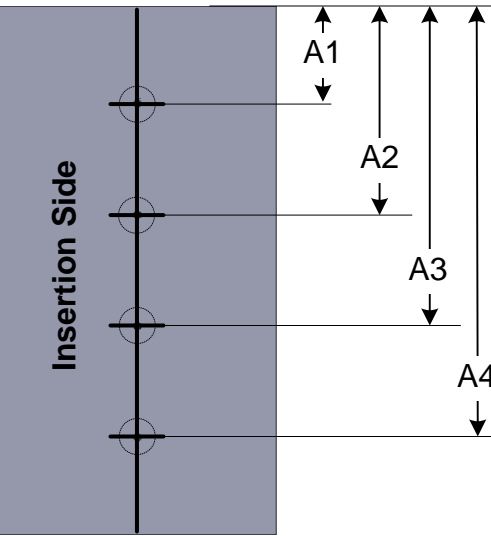

Figure 2
1. Identify the Insertion Side of the duct and draw a straight line perpendicular to the edges of the duct extending edge-to-edge per Figure 2.
2. Mark the center of each Insertion Hole location A1-A4 per Figure 2.